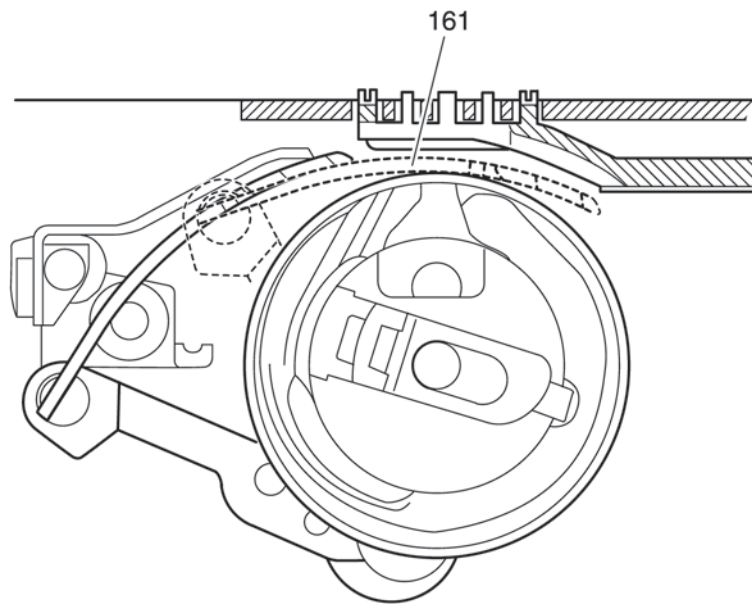

Fig. 46a
- Turn the handwheel until thread puller 161 has reached its right point of reversal (Fig. 46a).